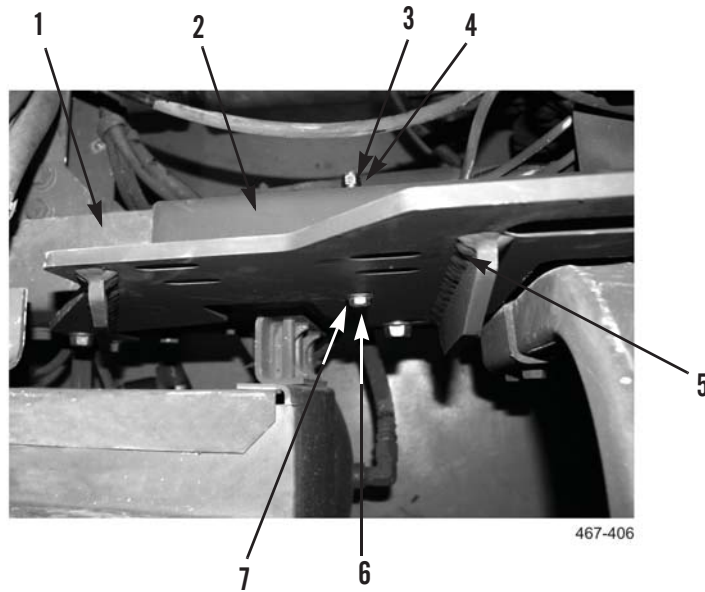

Figure 4. HEMTT Stowage Support Spacer.
8. Place spacer (Figure 4, Item 2) on frame (Figure 4, Item 1) next to stowage assembly support bracket (Figure 4, Item 5), aligning holes in spacer with holes in stowage assembly support bracket.
9. Install two washers (Figure 4, Item 7), bolts (Figure 4, Item 6), washers (Figure 4, Item 4), and locknuts (Figure 4, Item 3) through spacer (Figure 4, Item 2) and stowage assembly support bracket (Figure 4, Item 5).